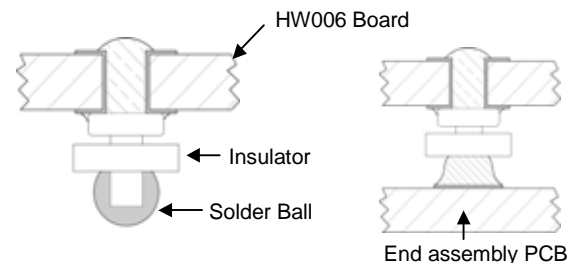

Figure 50. Column Pin Connector Before and After Reflow Soldering.
The surface mountable modules in the HW006 family use our newest SMT technology called "Column Pin" (CP) connectors. Figure 50 shows the new CP connector before and after reflow soldering onto the end-board assembly.